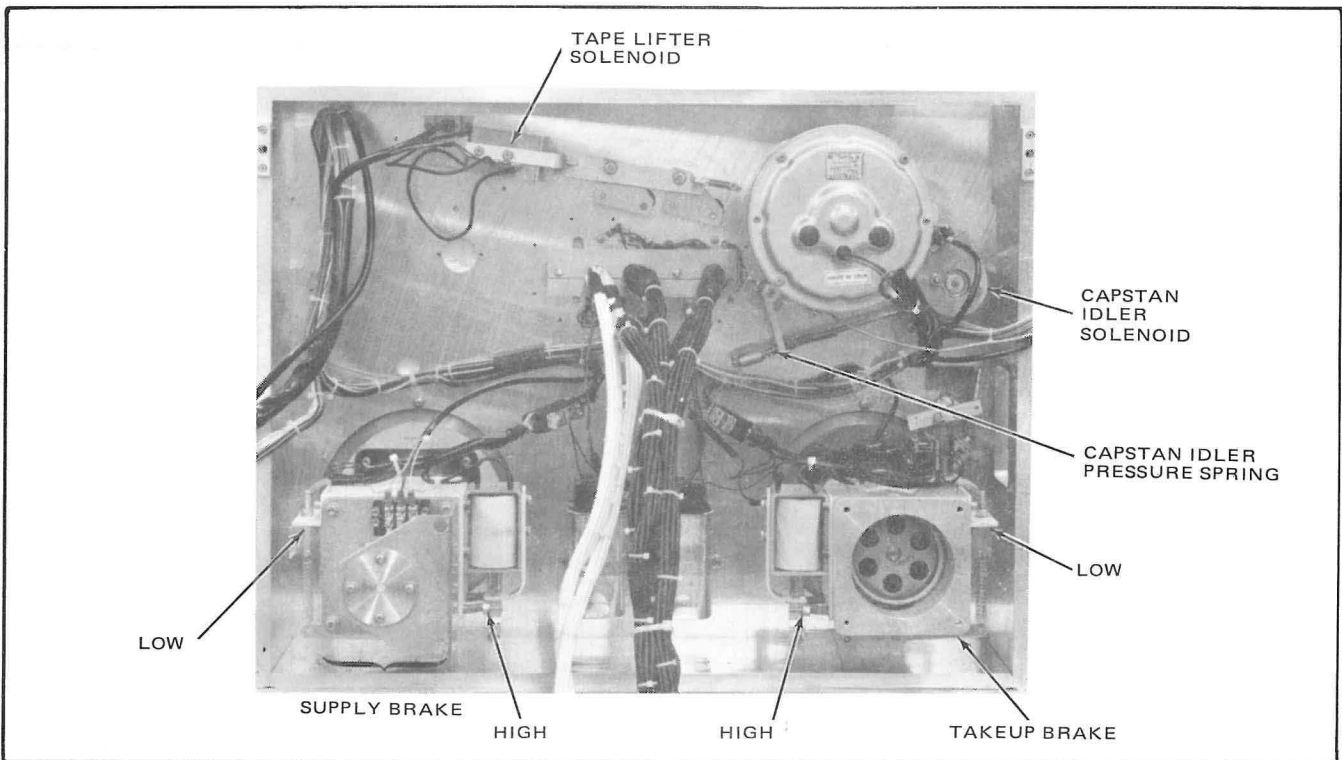

Figure 5-7. Transport Adjust Points
The brake system stops reel rotation and maintains tape tension when the equipment power is removed while in any operating mode (see Figure 5-7). A brake differential is necessary to maintain tension while stopping. The brake force is therefore higher for the tape-feeding reel in every case. Braking functions are checked with power off and no tape installed.
Adjust the supply reel brakes (Figure 5-7) as follows:
The capstan idler force against the moving capstan is determined by the capstan idler pressure spring. The force is adjusted by a locknut, which compresses the capstan idler spring shown in Figure 5-7. Check pressure whenever capstan motor has been removed and replaced or when any parts associated with the capstan idler have been changed or moved.
6. If pinch-roller force is incorrect, adjust locknut under transport (Figure 5-7). (Turning locknut cw increases pressure.)